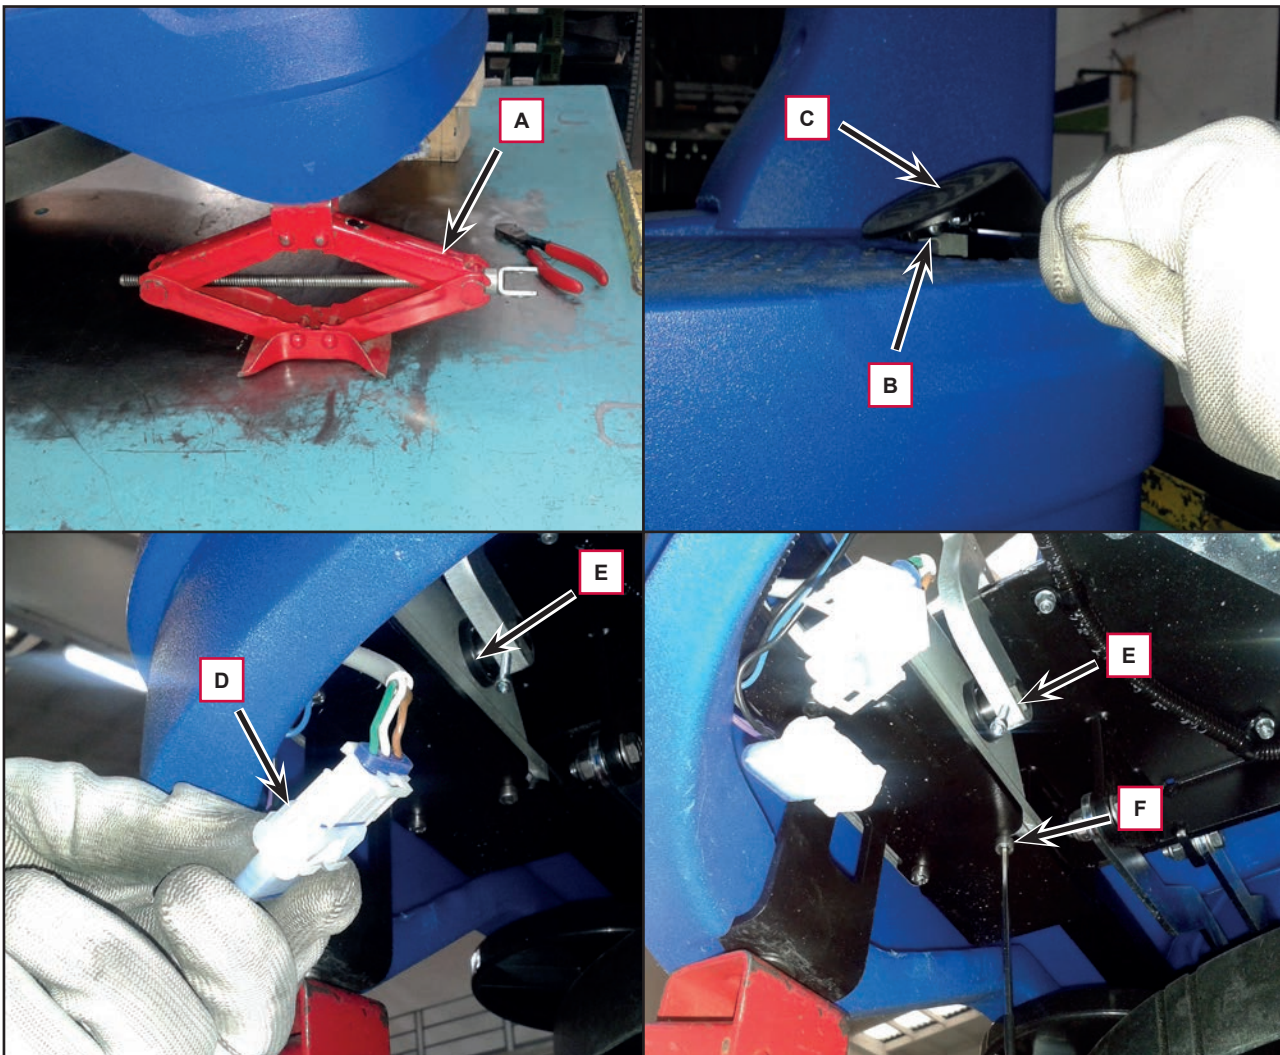

Figure 6
3. Lift the machine as shown (A, Figure 6).
4. Remove the 2 screws (B) and disassemble the accelerator pedal (C).
5. Under the machine disconnect the connection (D) of the drive pedal potentiometer (E).
6. Remove the 3 screws (F), then disassemble the drive pedal potentiometer (E).